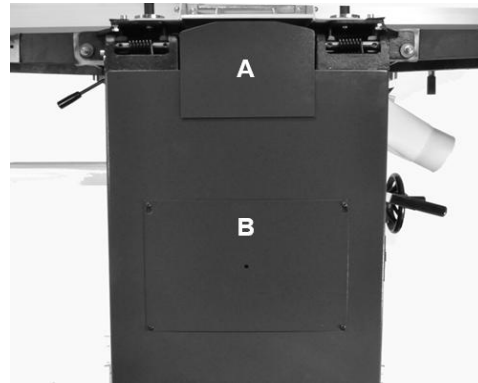

Figure 21
5. Once adjustments are made, the infeed table should be checked for flatness with the outfeed table with a straight edge. FIG. 21. This may require a few attempts to get the tables in alignment. When the infeed table is flat to the outfeed table, the hex bolts can be tightened to lock the settings.
6. With the table lowered, make sure the two safety Table Locks (#104, G) will engage. These special bolts (E,F) can be adjusted up or down by their threaded ends, then secured with their attached Nuts (#106). FIG. (16).
2. Remove the fence assembly, the Rear Guard (#91-A), and the cabinet's rear Belt Cover Plate (#40- B) to expose the motor, pulleys, and belts Figure 21.
Both drive belts are situated behind the machine's rear cover and side panel Figure 21. (A & B).
6. The tension of the Feed Roller V-Belt (#214, FIG. 21, B) is automatically regulated by the Spring (#229, C) and does not require manual adjustments.